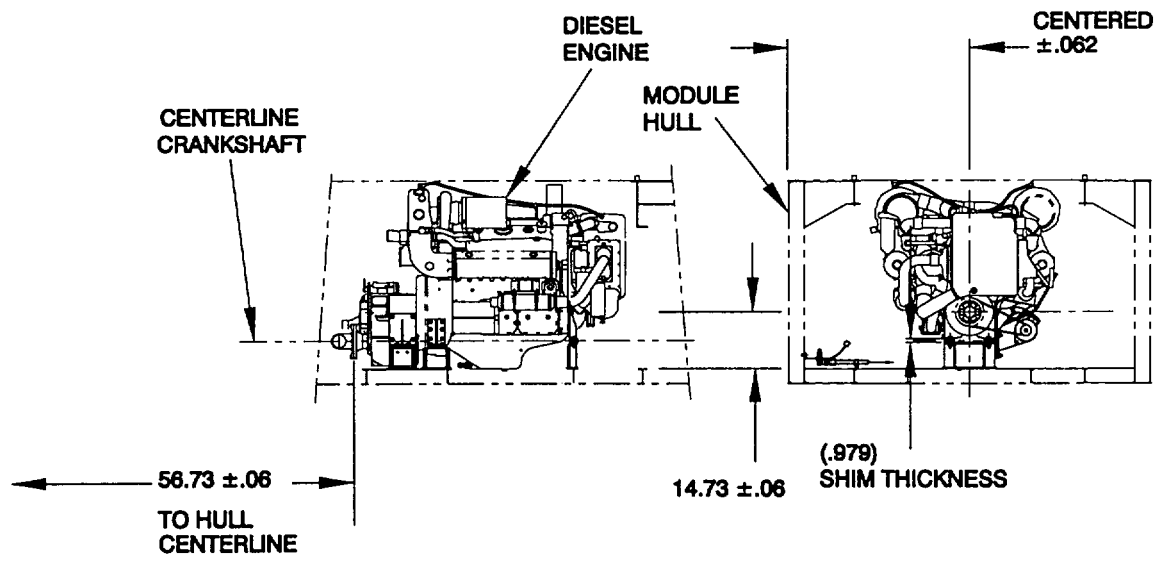

Figure 3-5. Engine Elevation.
- (2) Lower engine (9) into position aligning with engine module mountings. Alignment of engine is from centerline of crankshaft and must be parallel within .062 inches to hull longitudinal centerline. Engine shall be level and square to the hull within .062 inches. Refer to figure 3-5.
- (4) Secure the two flywheel housing brackets (4) to the marine gear housing with capscrews (1).
- (5) two marine gear brackets (2) to marine gear housing with capscrews (1).
- (3) Using shims (7), position engine (9) to elevation shown in figure 3-5. Secure engine (9) with capscrews (1) and hex nuts (6).
- (6) Reconnect fast lube system oil drain line
- (7) Reconnect quick disconnects heater hose couplings to engine inlet and outlet.
- (8) Reconnect raw water cooling system hoses.
- (9) Replace muffler and reconnect exhaust connections.
- (10) Reconnect the cold pack starting supply line at blower housing.
- (11) Reconnect fuel supply and return lines and open ball valves on fuel tank.
- (12) Reconnect electrical wiring, as tagged, to diesel engine. Refer to Appendix G.